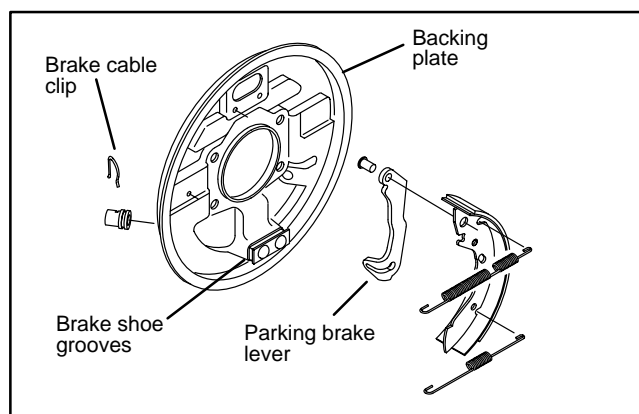

Figure 16
4. Remove clip that holds each brake cable into brake backing plate (Fig. 16).
5. Remove cable end from parking brake lever (Fig. 16).
8. Connect each cable to brake by inserting into parking brake lever and install brake cable clip (Fig. 16).